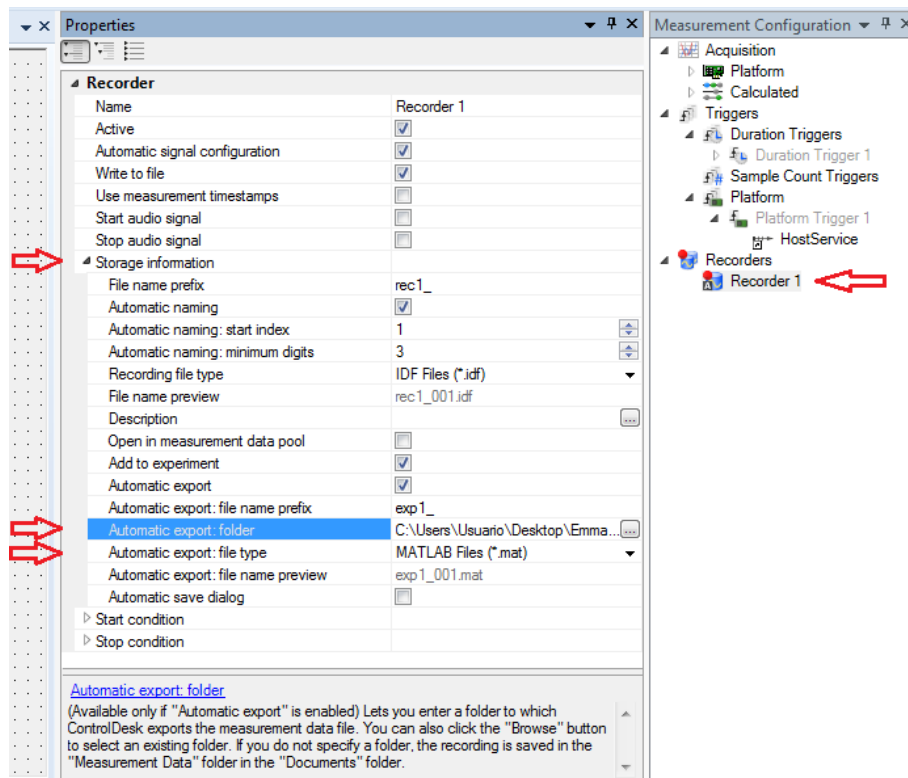

Figure 47: Properties of the recorder
3. Right-click on 'Recorder 1' and select 'Properties' to open the dialog seen in figure 47. Select 'Automatic export' to automatically create a file with the recording of the variable, and select a name for the file, the folder where the file will be generated, and the file type. To be able to work the data in MATLAB select 'MATLAB file (\*.mat)'. Also, the name of the recorder can be changed